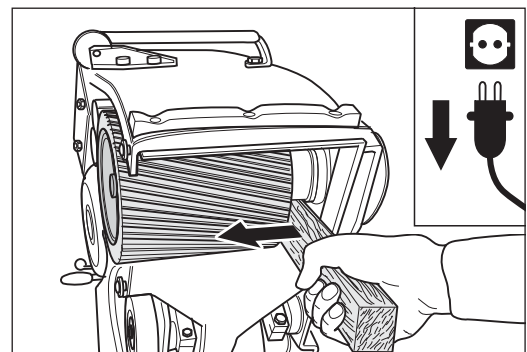

Fig. 81 If the sanding drum is too stiff to be removed, carefully lever it away with a lath. **Never use brute force!**
**If the sanding drum is too stiff to move, use a lath (Fig. 81) to dislodge it, so as not to damage the machine! Never attempt to loosen the sanding drum by hitting with a hammer!**